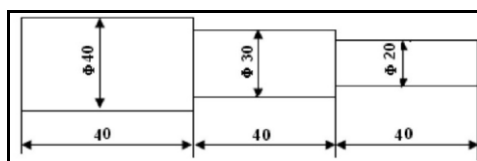

Figure 1.1. Stepped Pattern
- A pattern may help in establishing locating points on the mold and therefore on the casting with a purpose to check the casting dimensions in Figure 1.1.